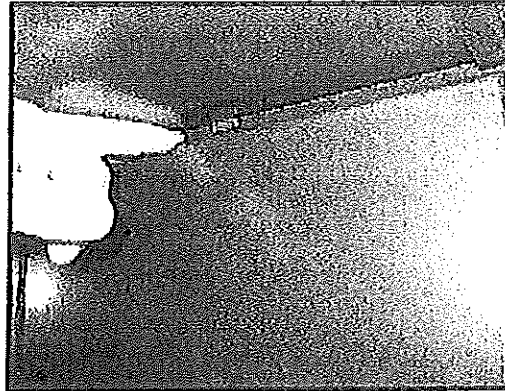

Figure 69: Securing tab.
2. Push up on the heat shield, at the right end of the unit near the middle, enough to clear the securing tab (Figure 69).